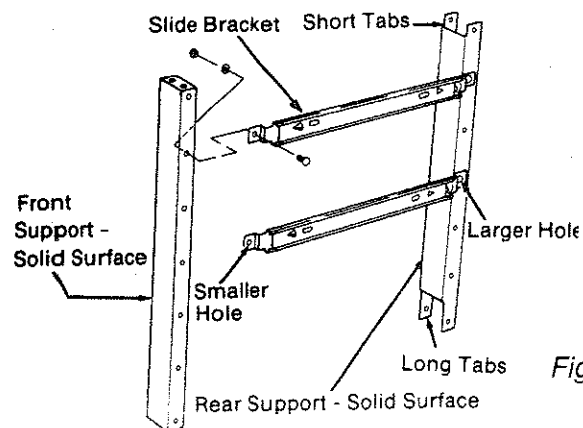

Fig. 30
34. Put the *upper support* in place between the rear and front supports. Make sure that the *upper support* is inside the surfaces of the other two parts. (Figure 30)
35. Put the last *slide bracket* in place on the right side of the *front* and *rear supports*. Make sure that the larger hole in the *slide bracket* is in line with the *rear support*. (Figure 30)